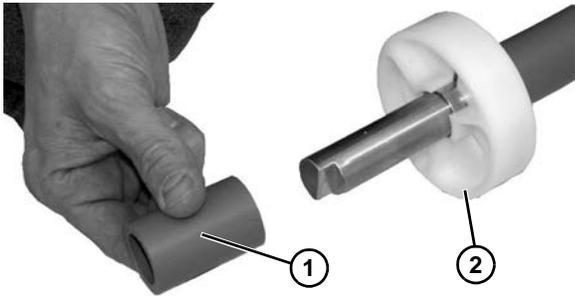

Figure 62
- Slide off the round puck spacer (Figure 62, item 1).
- Slide off puck and replace (Figure 62, item 2).